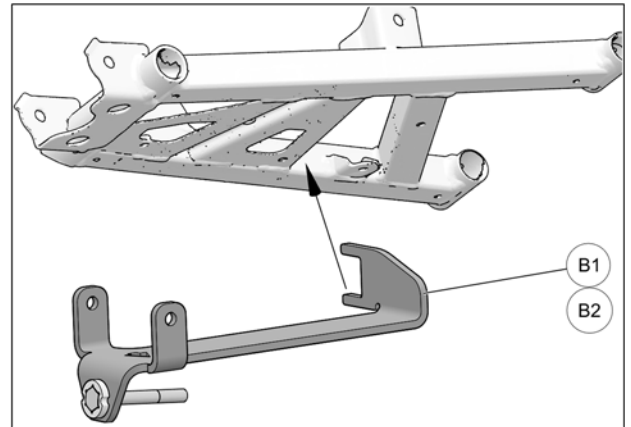

Fig. 7
6. Lift anchor bracket (**B1-B2**) up to lower suspension arm and hook C-shaped rear part of bracket on rear-facing member of suspension arm as shown in Fig. 7